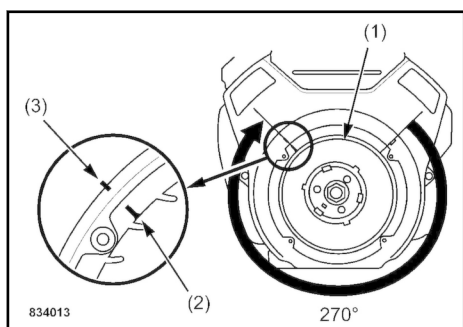

Fig. 177
1. Turn the flywheel clockwise further ↻ Fig. 177, until the marks (2, 3) are in line.